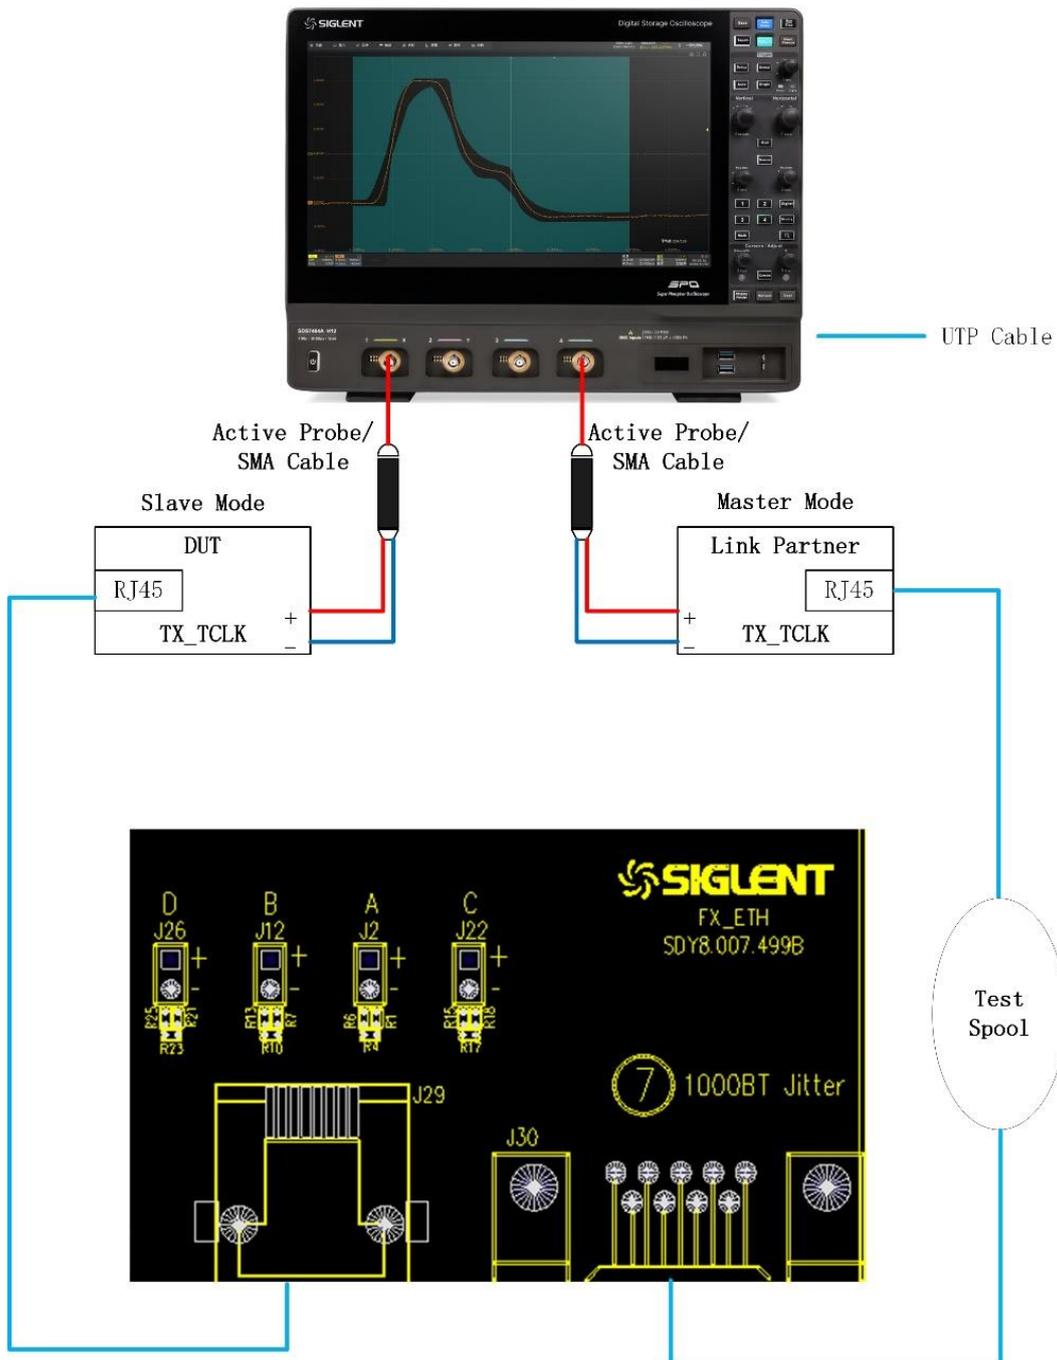

Figure 10-10 Probing for 1000 BASE-T Slave TX_TCLK Jitter (Filtered and Unfiltered)
The test channel as defined in Figure 10-9 can be applied to the test environment as Figure 10-10 shown. The test channel is used to connect the Link Partner (Master) to the J30 connector on the section ⑦ on the test fixture. The test environment is set up as follows:
- (1) Connect the DUT (work in Slave mode) to the J29 connector on section ⑦ of the test fixture by using a short UTP cable.